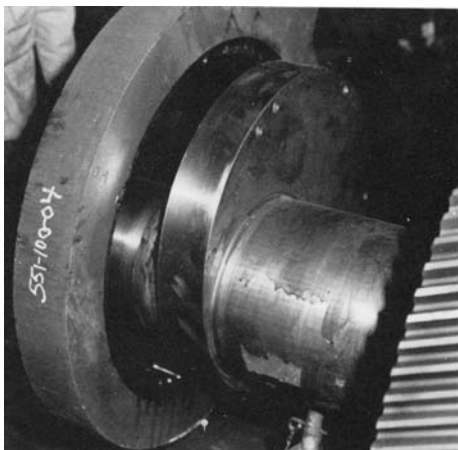

Figure 5-9 Removing/Installing Connecting rod
4. Slide connecting rods, with bearing assemblies installed onto the crankshaft eccentric (Figure 5-9).